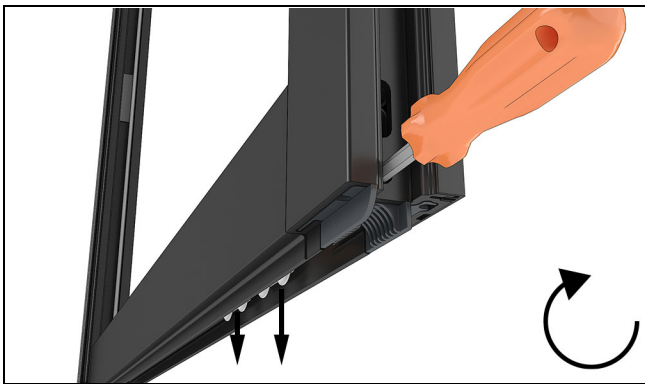
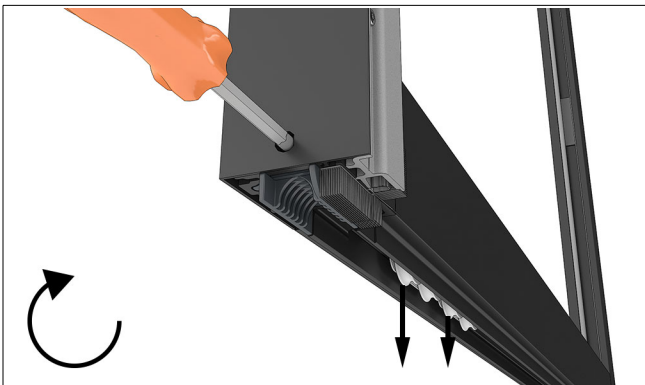

Figure 190
Figure 191
5. Insert a 5mm hex wrench into the adjustment hole(s) and raise or lower the rollers accordingly. Rotate the adjustment screw clockwise to raise the panels. See Figure 190 and Figure 191.